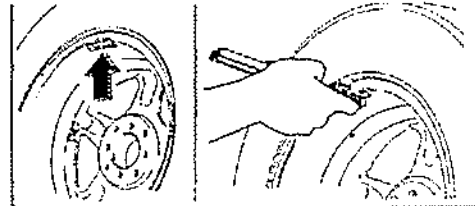

Figure 3
- Move the head of the gauge (b) to the edge of the wheel and attach the required weight to the edge of the wheel. (FIG. 3)